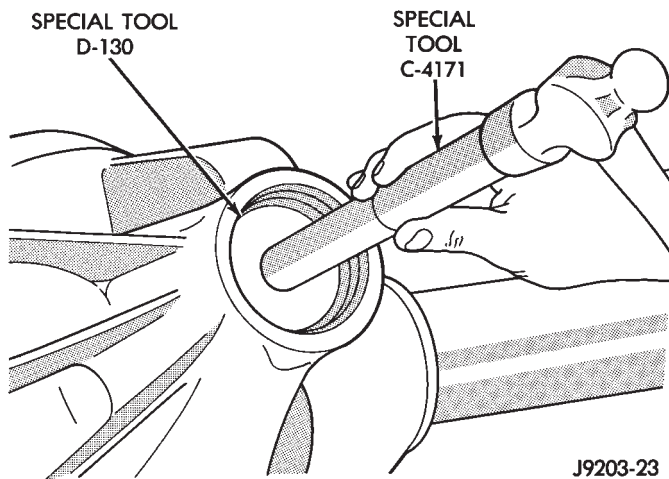

Fig. 26 Pinion Front Bearing Cup Installation
- (2) Install the pinion front bearing cup with Installer D-130 and Handle C-4171 (Fig. 26).